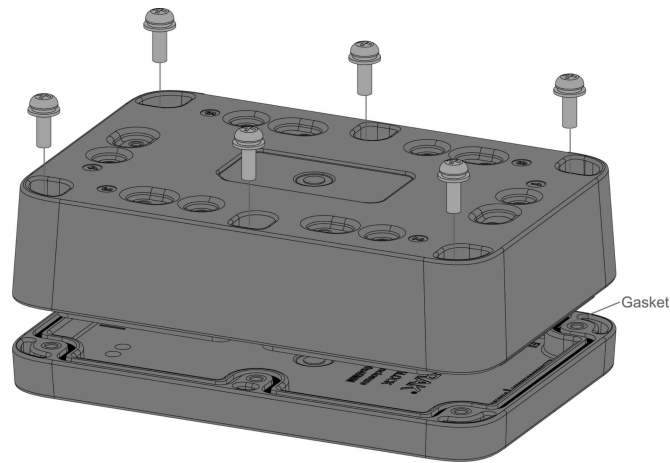

Figure 11: Closing the WisBlock Unify Enclosure
Finally, close the WisBlock Unify Enclosure with the top lid using six (6) pieces of M4 x 8 mm head screw with a washer, as shown in **Figure 11**.